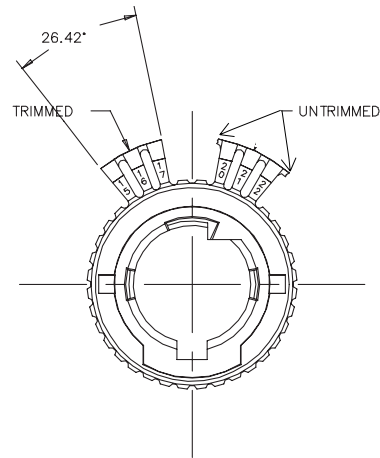

Figure 7
2. Using diagonal cutters or a razor knife, cut through the cam on either side of the section you wish to remove. (The breakaway cam section should be trimmed to the edge of the section which is to REMAIN on the breakaway cam, see Figure 7.) Cut the outside ring first, then at the score line on the bottom of each section near the center ring. **Helpful Hint:** When starting to remove sections, start two or three sections **before** the section required. Then remove one section at a time until the required section is reached. This procedure eliminates the potential of damage to usable sections.